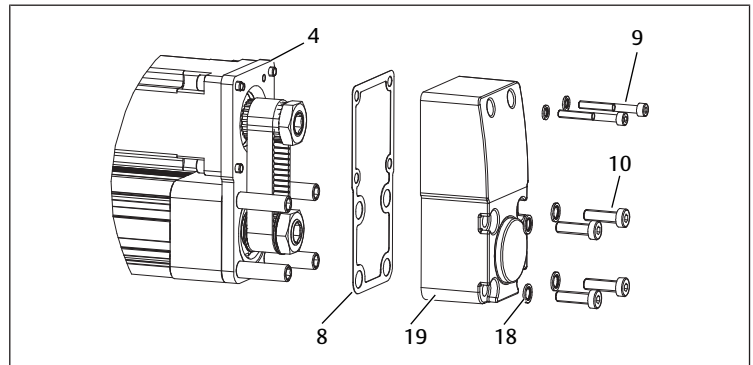

Fig. 18: Installing the gearbox cover
1. Place the flat gasket (8) between the gearbox cover (19) and the intermediate plate (4).
2. Push the seal disks (18) over the hexagon socket screws (9/10).
3. Fasten the gearbox cover. See → Fig. 18. Screws and tightening torques. See → Screws and tightening torques  $M_A$ .